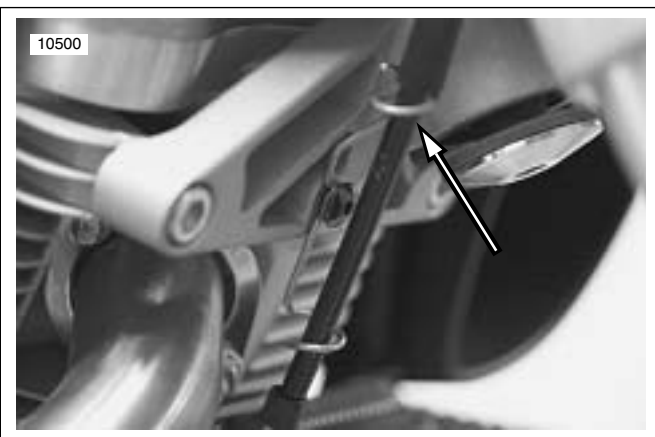

Figure 2-86. Clutch Cable Wire Form
2. See Figure 2-86. Remove clutch cable wire form.
4. Tighten front isolator bolt (6) to 49-51 ft-lbs (66-69 Nm).
5. See Figure 2-86. Install clutch cable wire form. Tighten fastener to 84-92 **in-lbs** (9.4-10.4 Nm).